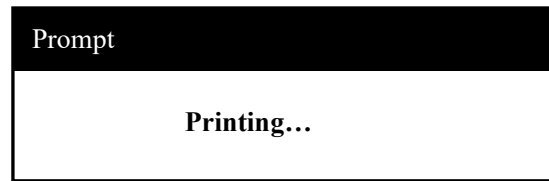

Figure 9 Print prompt box
- **Print** : Print: print the display waveform, measurement parameters and the analyzed data results on the current screen. If the waveform has been zoomed or moved, the display is not a complete waveform, so the print waveform is not complete. During printing, the print prompt box is shown in Figure 9, which does not respond to any other operations in the period.